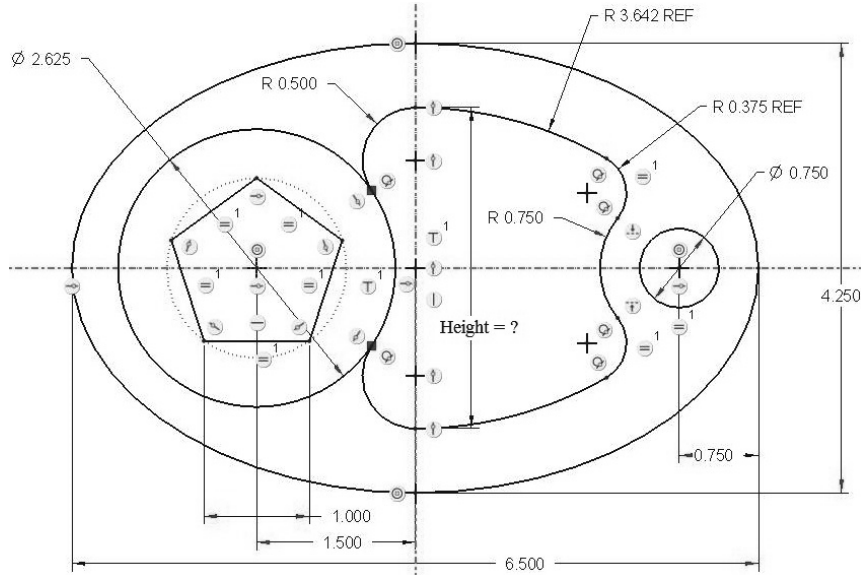

Figure 3-72 Problem 3—Special Cam
- 3.3 Draw the front view of "special_cam" (Figure 3-72). **Design Intent**—The cam must be a symmetrical ellipse (draw centerlines 1st). The pentagon shaped hole must be 1.500 inches from the geometric center of the cam. The cutout and small hole are for mass reduction only. Mating arcs are tangent. What is the maximum height of the circular arc cutout? The 3.642 radius arcs are centered at the top and bottom of the ellipse on the vertical centerline and are listed as reference dimensions along with the R0.375 arc. (>File>Options>Sketcher, change to 3-decimal places before sketching.)